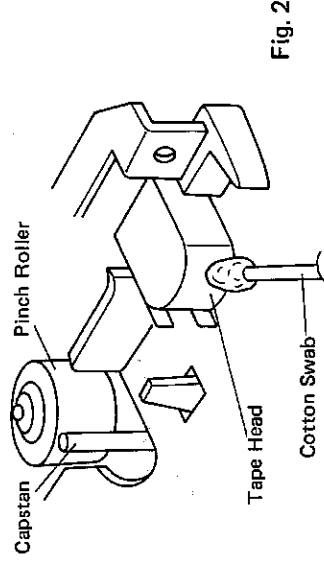

Fig. 2
7. Clean the tape head, capstan and pinch roller once a month or after every 50 — 80 hours or use with a soft cloth or cotton soaked in head cleaner. (Fig. 2)